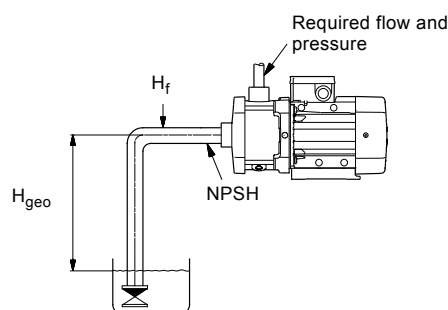

Fig. 28 Dimensional data
- dimensional data such as pressure loss as a result of height differences, friction loss in the pipework, pump efficiency, etc. (see fig. 28)